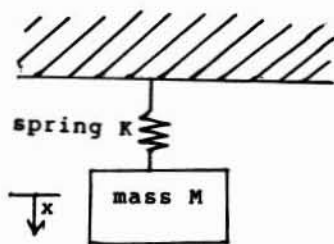

Figure 1.
Structures vibrate in forms that can be explained mathematically. In this article, we shall consider the theory of vibration from a qualitative viewpoint. Consider the simple oscillating system shown below in Figure 1. It consists of a mass (M) and a spring (with stiffness K). K is in units such as pounds per inch of deflection. Analyzing this simple model, it can be shown¹ that the natural mechanical oscillatory frequency is: